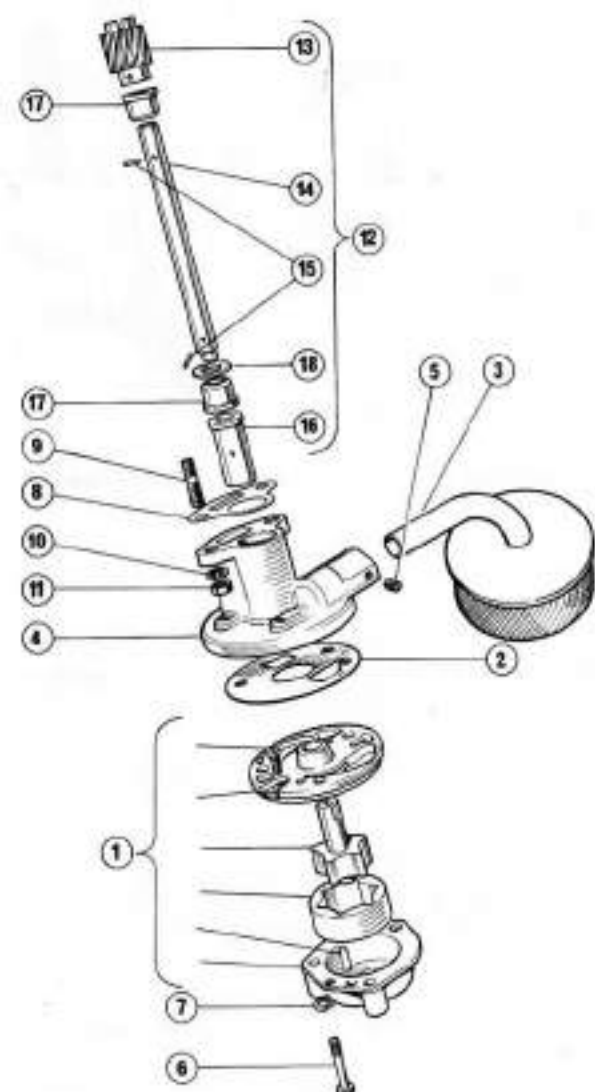

Figure 4 Oil Pump
- 3 Unscrew two $\frac{1}{8}$ UNF nuts, complete with lockwashers and remove oil pump assembly, including filter, from the cylinder block (see Figure 4).